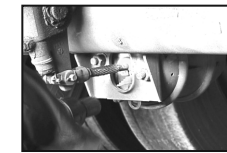

Fig. 5
Step 6. With referencing gauge placement established, (gauge should be close to, but not be in contact with pushrod indicator) tighten the brake chamber mounting fasteners. This will secure the gauge bracket in place and gauge should be in contact with the chamber "face". (**Fig. 5**)